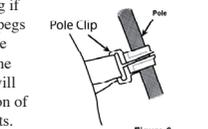

Figure 6
10. Unravel the guy ropes and loosely peg out each one ensuring that they are all pegged directly in line with the seam or pole to which they will apply tension and support. Once this is achieved tighten the adjusters so that equal tension is applied to each guy point (see figure 6).